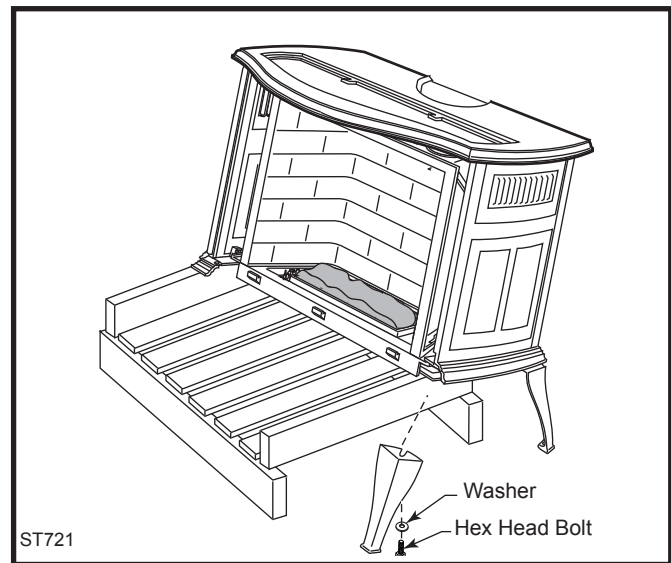

Fig. 14 Carefully tip stove onto back legs. Leave pallet under stove to keep stove from falling fully forward.
3. Carefully tip the stove onto its rear legs. Adjust the pallet to allow access to one of the front leg holes. Be sure to leave the pallet under the stove to prevent the stove from falling fully forward. (Fig. 14)